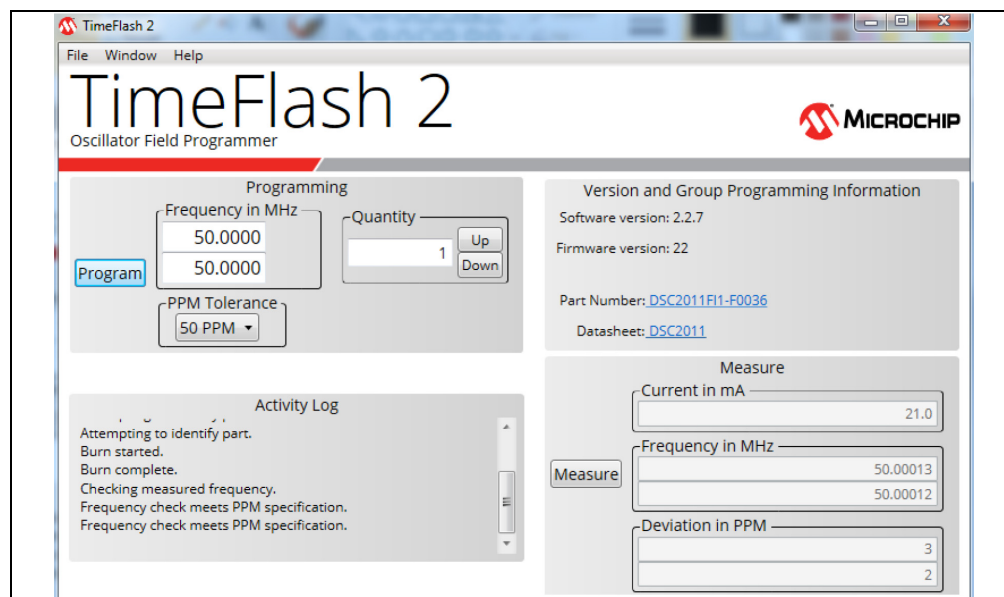

FIGURE 3-15: Example of a Device Programmed via a Configuration File.
7. TimeFlash 2 recognizes the device and the frequency for each output. Click the **Program** button to program the device (see Figure 3-15).